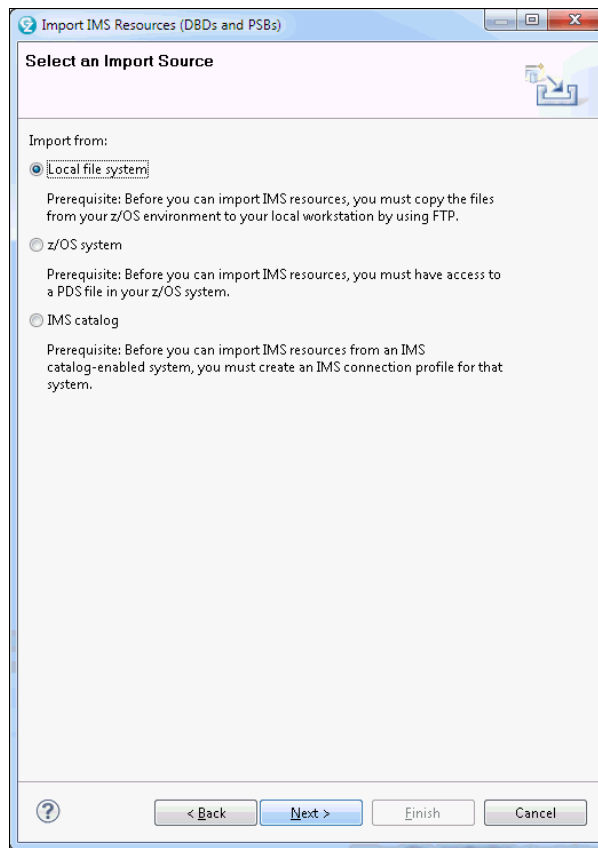

Figure 8-22 Select the Import Source of the source to be imported
4. In Figure 8-22, select a location from which the resources are imported. The location can be a file on your local workstation, a file on a host in which you are connected, or an IMS catalog. Click **Next**.